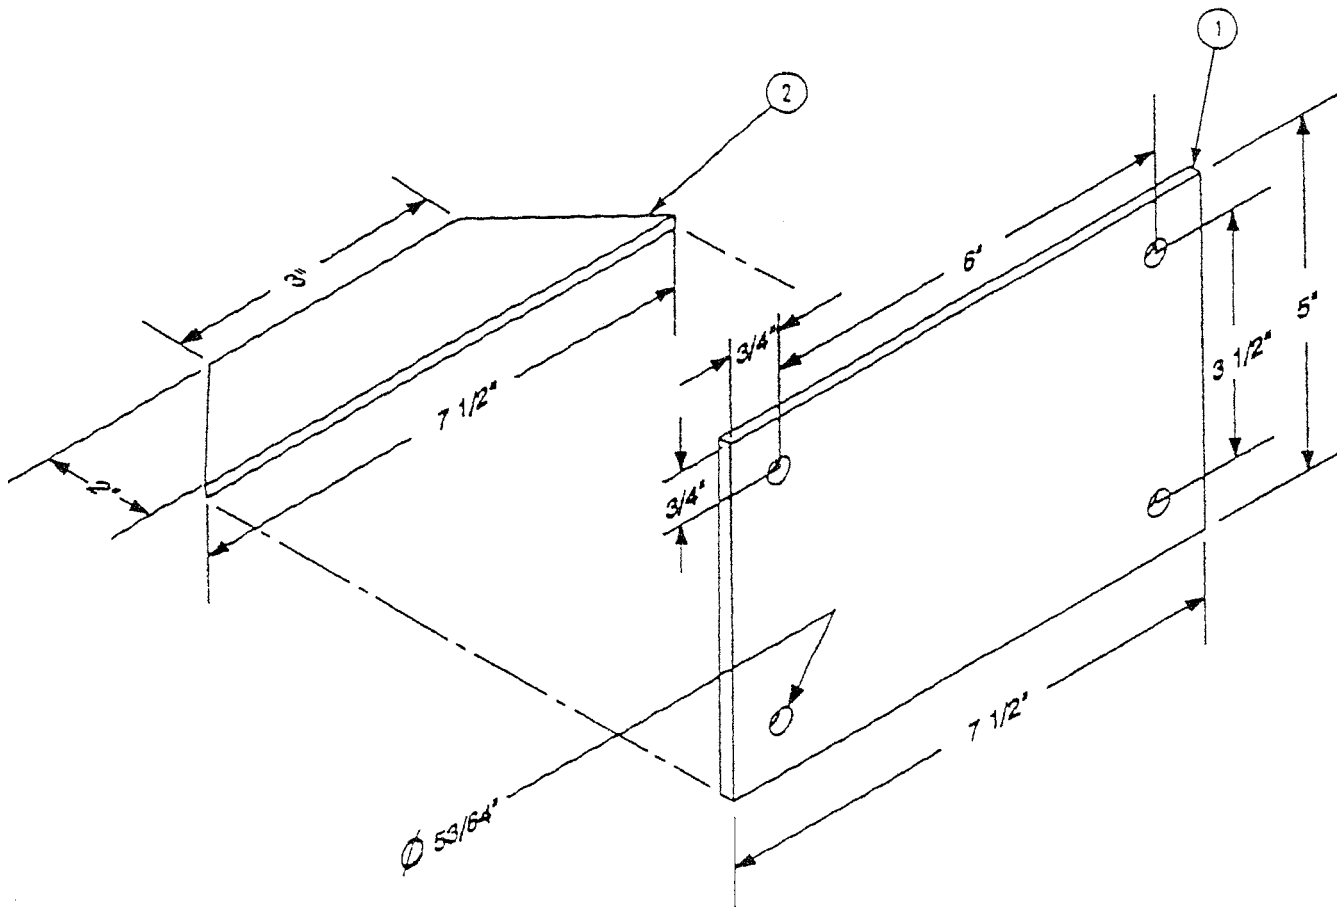

Figure 2-12. 100/200-Amp Regulator Mounting Hole Template
1. Cut 1/8-inch steel plate 5 inches by 7-1/2 inches (1) and 2 inches by 7-1/2 inches (2). See Figure 2-12.
2. Measure 3/4 inch from each side and end of 1/8-inch steel plate (1) and scribe a line.
4. Cut 1/8-inch steel plate (2) as shown in Figure 2-12 so that one side measures 3 inches.
5. Assemble face plate (1) and bottom plate (2) and weld assembly.
6. Weld 3-inch side of bottom steel plate (2) to powerplant test stand left rear support.